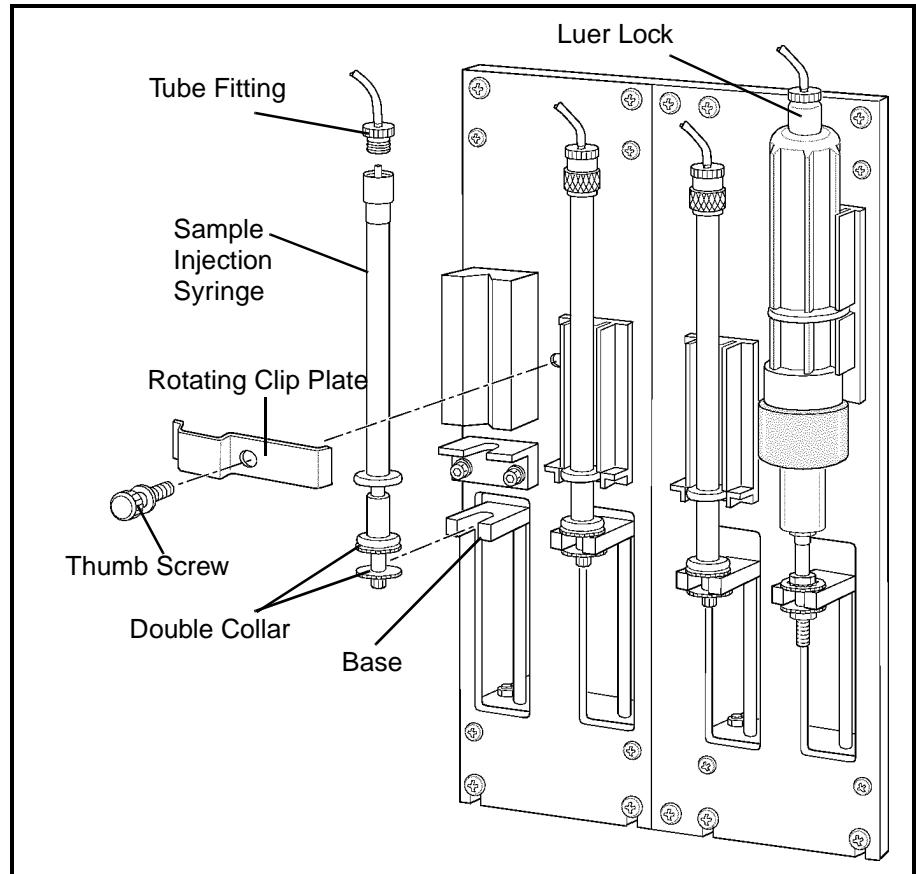

Figure 9.14: Sample Injection Syringe Removal
2. For the two syringes on the left — Sample Injection Syringe and HGB Lyse Syringe — loosen the Thumb Screw on the rotating clip plate holding the two syringes in place. Swing the plate to a vertical position to allow access to the syringes. There is no holding plate for the two syringes on the right. (Refer to Figure 9.14.)
5. Locate the tubing just above solenoid #24 that attaches to the HGB Flow Cell. (Refer to Figure 9.14.) Attach a hemostat to the tubing between the fitting and the HGB Flow Cell.